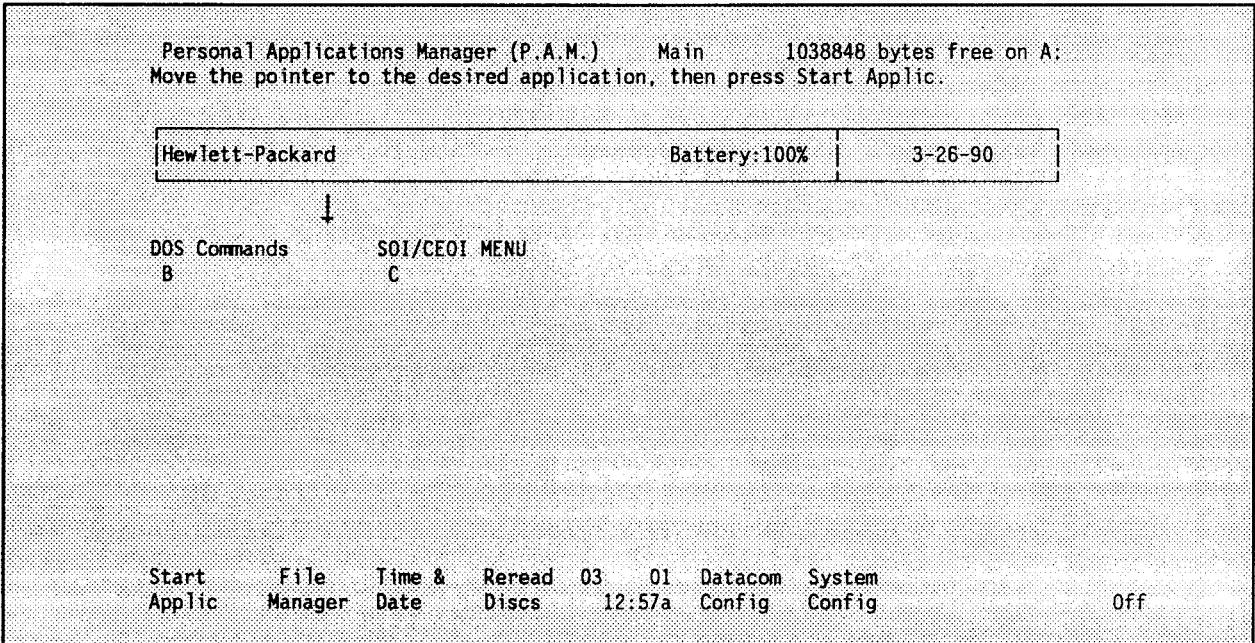

Figure 2-4 (f4)
5. Press <f4> Reread Disks. The PAM menu then displays the screen shown in Figure 2-4.